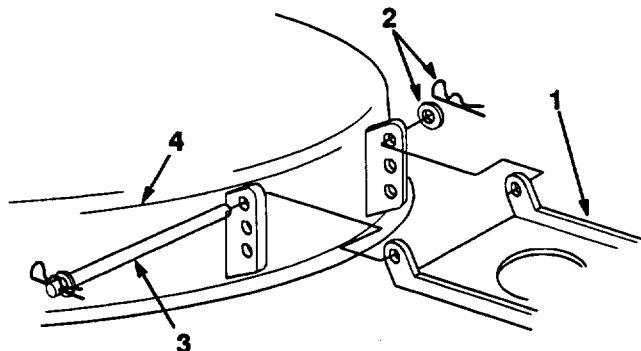

Figure 51
- If the $1/4"$ to $5/8"$ (6.350 mm to 15.875 mm) front slope cannot be achieved by rotating the slope adjusting nut, move the mower pivot mount at the mower (Fig. 51).
- Remove the hair pin cotter and washer, and slide the rod from the mower (Fig. 51).
- Lower the mower pivot one hole and install the rod, washer, and hair pin cotter (Fig. 51).